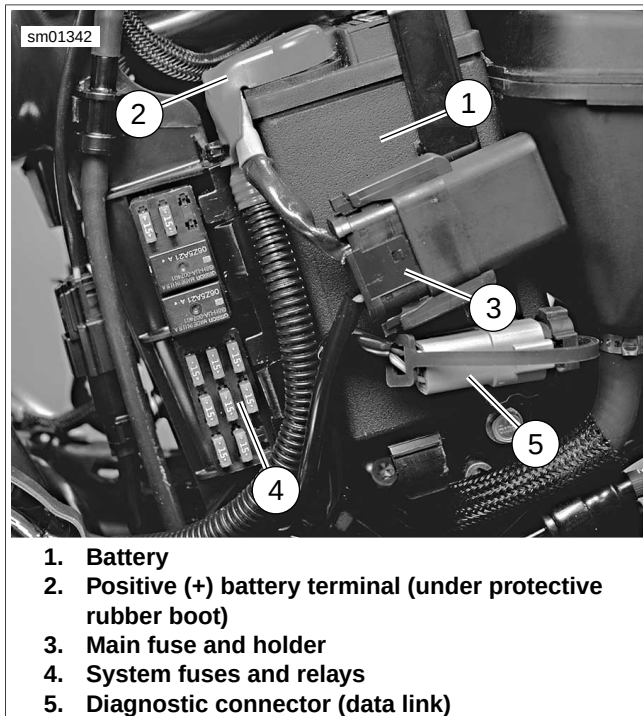

Figure 2-158. Main Fuse and Battery Location: All Models (XL Model Shown)
See Figure 2-158. The left side cover provides access to the battery (1), fuses (3, 4) and diagnostic electrical connector (5). No tools are required to open or close the cover.